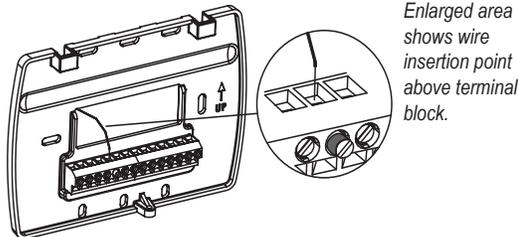

Figure 4. Insert wires into appropriate terminal blocks.
- On the wallplate, insert wires into the terminal blocks that correspond to the system type, then re-tighten each screw for each terminal (see Fig. 4, enlarged area).